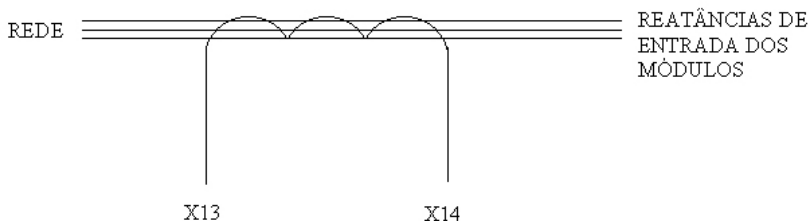

Figure 11 - Grounding fault CT at the input
- ☑ The grounding fault protection of the modules must be realized externally. The CT of the grounding fault current with the ratio of 4500:5 shall be connected to the general power supply (Fig. 11), where the cables of the three phases (R, S and T) pass through the CT window.